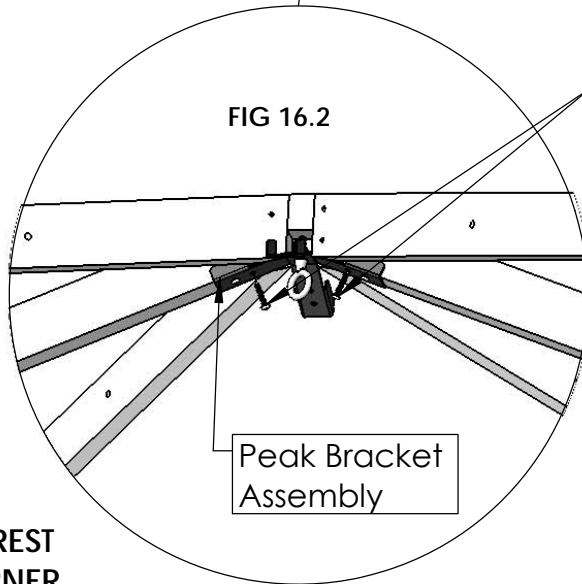

FIG 16.2
- ATTACH ROOF PEAK BRACKET ASSEMBLY AS SHOWN BELOW (FIG 16.2)